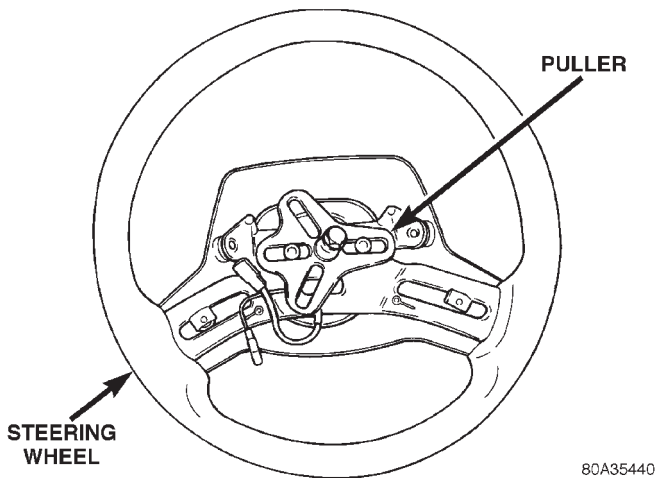

Fig. 1 Steering Wheel
- (1) Position front wheels **straight ahead**.
- (2) Remove negative ground cable from the battery.
- (3) Remove the airbag, refer to Group 8M Restraint Systems for service procedures.
- (4) Remove the steering wheel with an appropriate puller (Fig. 1).